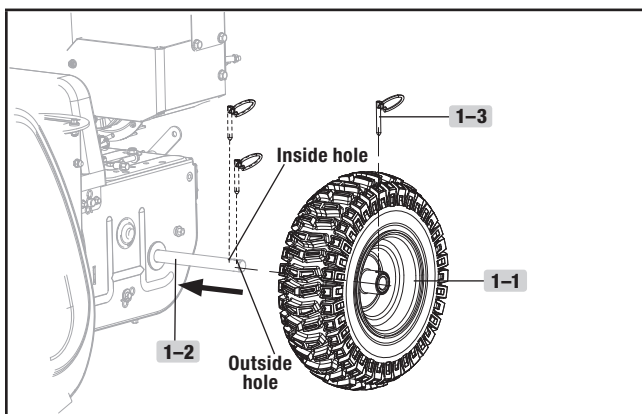
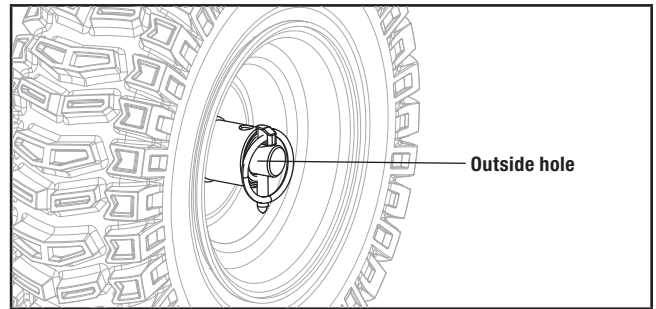
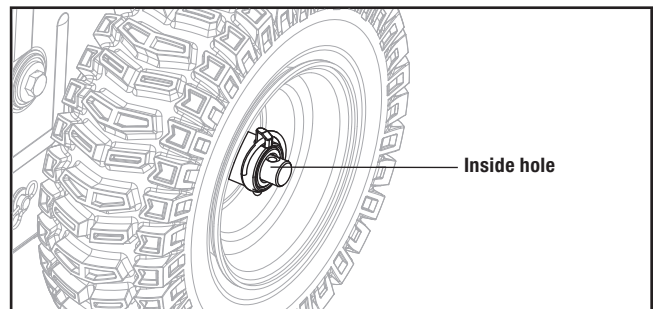
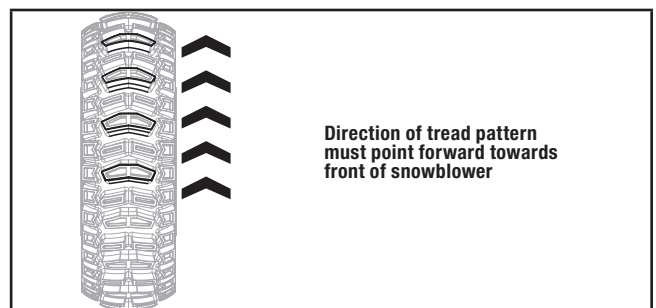

Figure 1A
Figure 1B
Figure 1C
Figure 1D
1. Slide the left wheel (1-1) onto axle (1-2) as the arrow shows (Fig. 1A). Tread pattern should face forward (Fig. 1D). Place axle pin (1-3) into wheel. The axle has a center hole to attach the wheel to the axle (which connects to the drive train). Once inserted, fold ring around axle to hold in place.
2. Repeat on right side. Tread pattern should face forward (Fig. 1D).
Only the left axle has two holes (Fig. 1A), and the axle pin can be removed and repositioned. If the wheel is slid further in on the axle with the pin inserted into the outside hole of the axle, the machine will move freely without the engine on (Fig. 1B). If the pin is inserted into the inside hole of the axle, the machine will only move when the drive control is engaged when the engine is on (Fig. 1C).